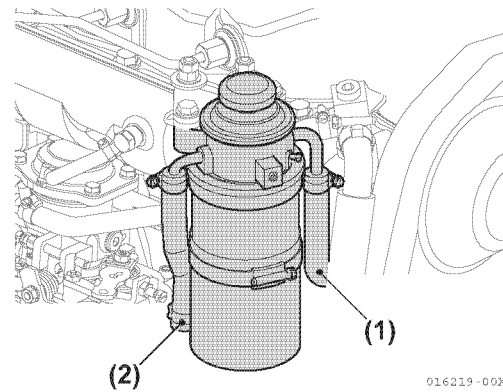

Figure 6-7
2. Disconnect the fuel hose from the fuel fine filter inlet (**Figure 6-7, (1)**).
6. Repeat procedure at the outlet end of the fuel fine filter (**Figure 6-7, (2)**).